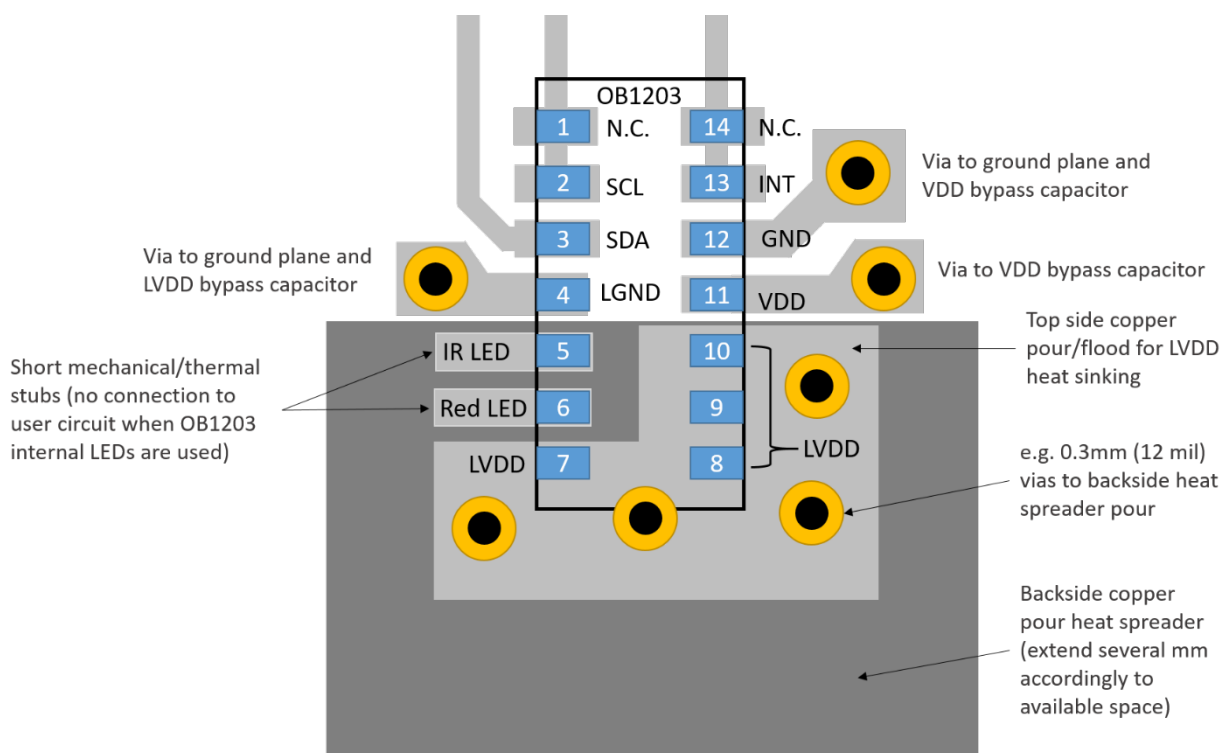

Figure 3. Top (Through Package) View of Pinout and Layout Concept
6. The *LVDD pins assist with heat sinking* the package and should be connected by a common copper pour/flood (see Figure 3 for a minimum acceptable heat spreader size – larger is better). Additional heat sinking vias to a heat spreading copper pour on the PCB backside are recommended. Vias conduct heat and electrical current similarly, so design the vias as if you were trying to conduct large amounts of current (e.g., not a few microvias). For an example of a copper pour with heat sinking vias to a backside heat spreader (not shown), which can be much larger in area, see Figure 3. Good heat sinking prevents thermal drift affecting LED intensities and *improves acquisition of the initial HR and SpO2 values, as well as LED efficiency*.
8. *IR LED and RED LED pins* are normally not connected to the user circuit. These are provided for (1) heat sinking and (2) optional use of external LEDs (see example in section 0). If connected, these are high current pins and should be sufficiently wide, similar to LVDD and LGND traces.